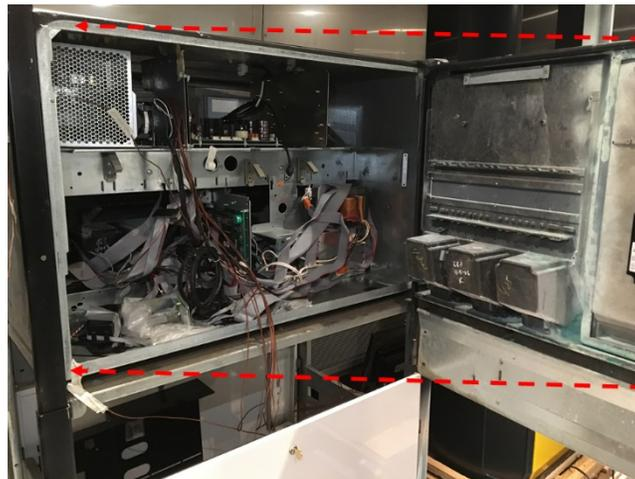

Figure 153
- 2) Close the main dispenser door see Figure 153